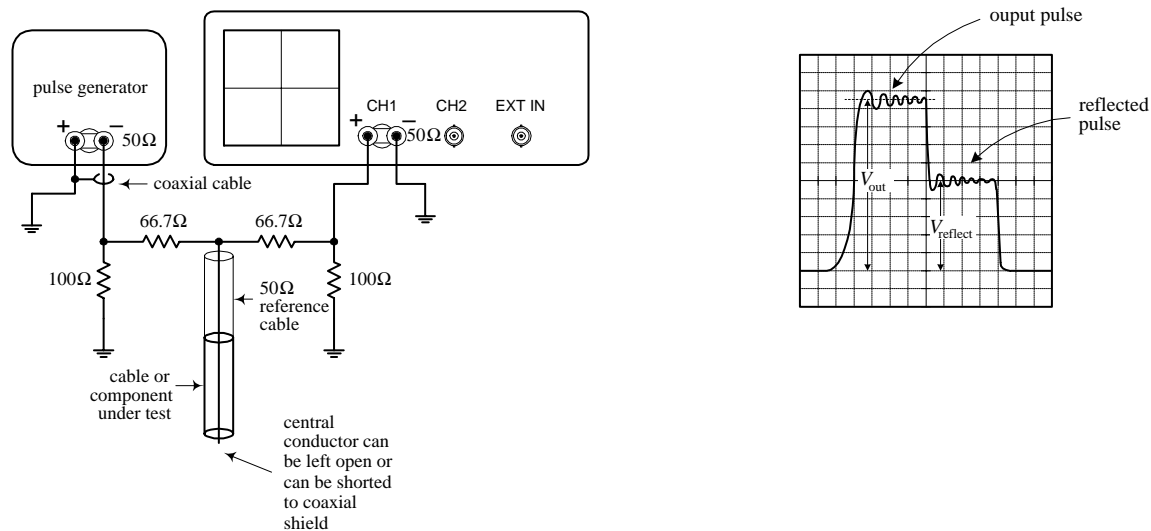

FIGURE 14.42
1. Set up the equipment as shown in Fig. 14.42.